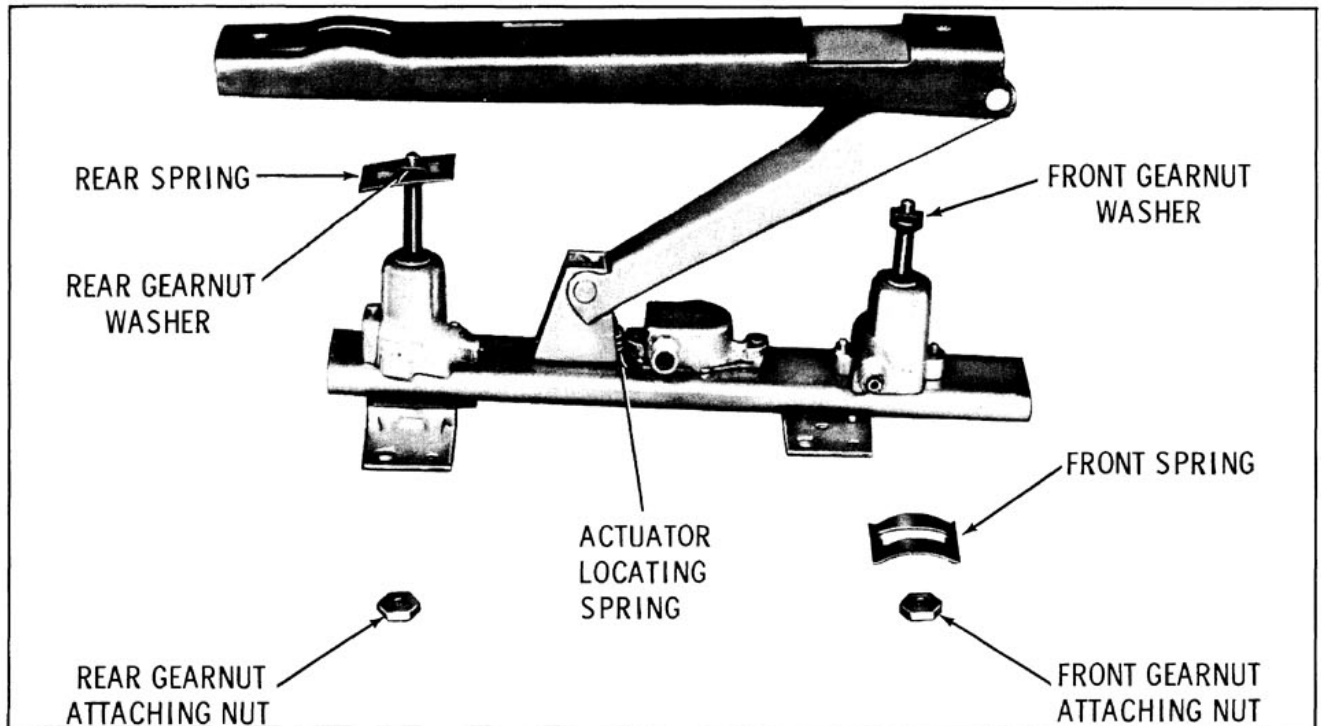

Fig. 16-99 Six-Way Seat Adjuster
4. At top of adjuster, remove front and rear vertical gearnut attaching nuts. (Fig. 16-99)
5. Remove front vertical gearnut spring. (Fig. 16-99)
6. Lift upward on adjuster upper track; then remove rear vertical gearnut spring. (Fig. 16-99)
IMPORTANT: Horizontal actuator is under tension from spring shown in Fig. 16-99. When installing actuator, be sure actuator locating spring is properly engaged with actuator assembly.
6. Remove front vertical gearnut spring. (Fig. 16-99)
8. If front vertical gearnut is being replaced with a new part, transfer gearnut washer to new gearnut assembly. (Fig. 16-99)
5. At top of adjuster, remove rear vertical gearnut attaching nut. (Fig. 16-99)
6. Lift rear of channel upward and remove rear vertical gearnut spring. (Fig. 16-99)
8. If rear vertical gearnut is being replaced with a new part, transfer gearnut washer to new gearnut assembly. (Fig. 16-99)